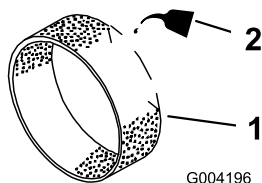

Figure 45
3. Put one or two ounces of oil on the pre-filter (Figure 45).